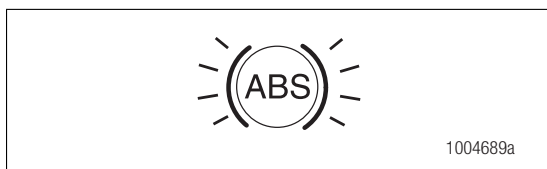

Figure 1.9
- Located on vehicle instrument panel. Figure 1.9.